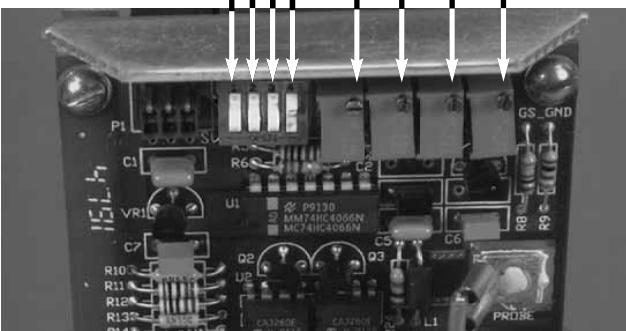

Figure 15
2. There is a fail-safe switch on the 811 unit which may be set in either a High or Low position. Refer to Figure 15 on next page.
6. a. When the relay coil is de-energized, (LED will be off) a connection is made between the common (COM) and normally closed (NC) terminals, and there is no connection between COM and normally open (NO) terminals.
4. Adjustments – Refer to Figure 15.